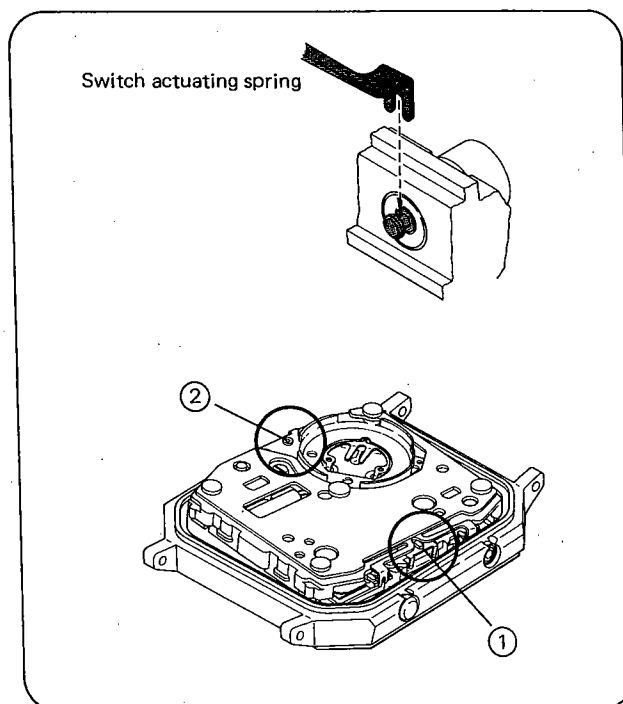

Fig. 3
(Setting sequence is ① → ② as shown in Fig. 3.)